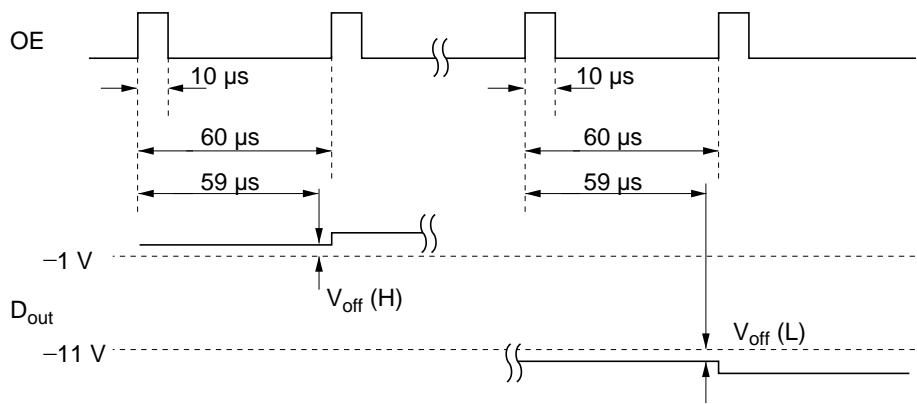

Figure 27 Offset Voltage
8. Definition of “offset voltage” is shown figure 27.